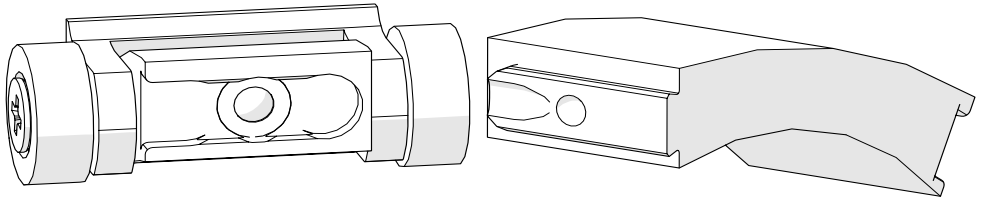

Fig. 98 - Link ends differ
1. Note the different ends of the links which will provide the connection (Fig. 98).